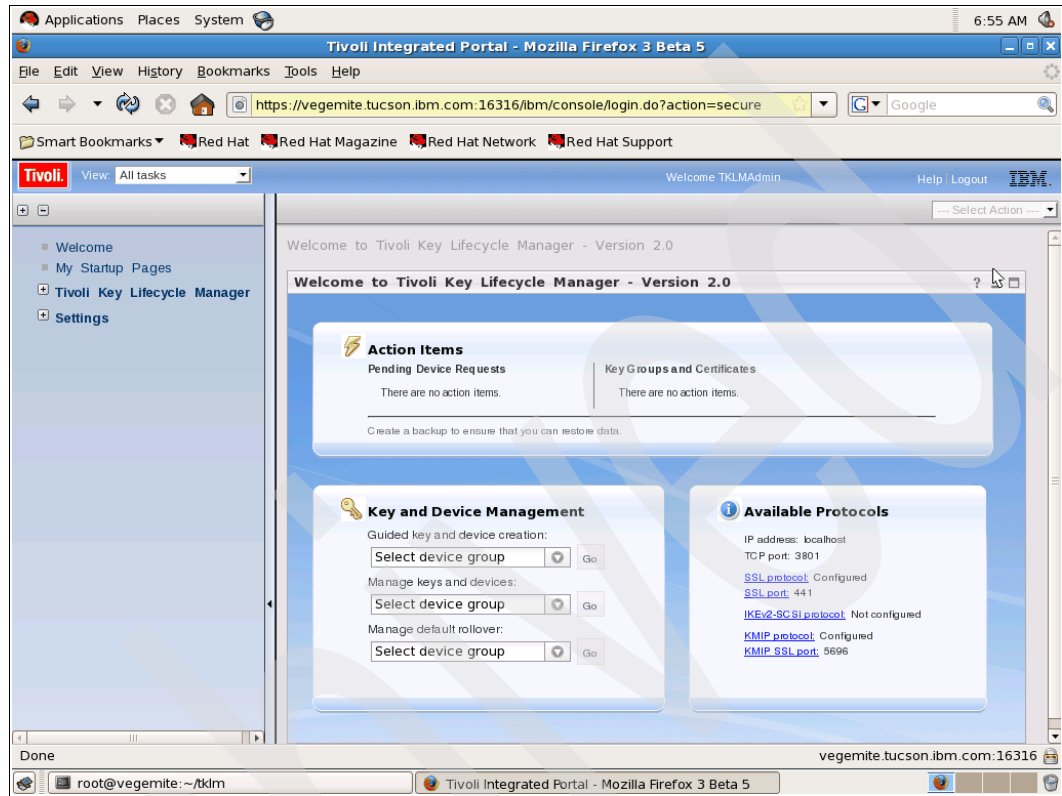

Figure 7-28 TKLM v2 welcome screen
31. When you access the Tivoli Key Lifecycle Manager a welcome screen is displayed (Figure 7-28). Procedures accessed from the **Key and Device Management** section are required to complete TKLM configuration. Refer to 9.1, “Role Based Access Control (RBAC)” on page 162 to continue the TKLM v2 configuration steps.